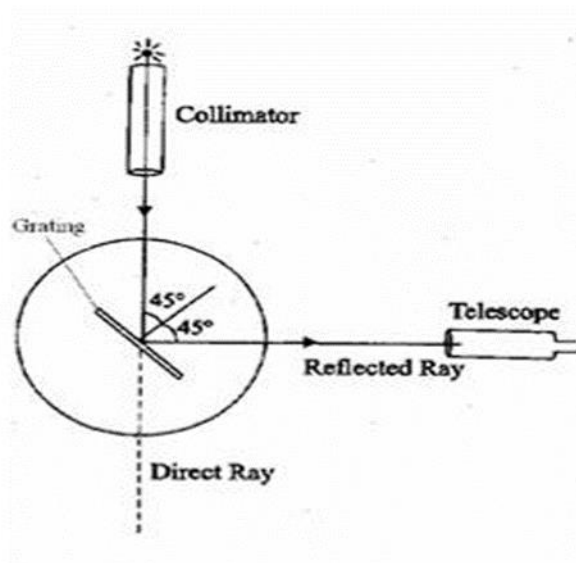

Fig. 4.1. To set for normal incidence position
- The light from the collimator incident normally on the grating, and the telescope is released. (Fig 4.1).